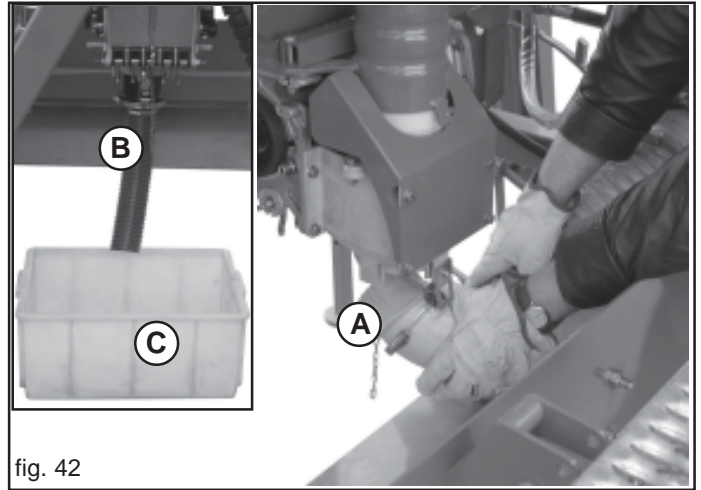

fig. 42
- 2) Remove the bend under the injecting tube (A, Fig. 42), by loosening the quick closing device.
- 3) Then attach the collecting tube supplied with the machine (B, Fig. 42) in the same position and place a collecting container at the other end of the tube (C, Fig. 42).